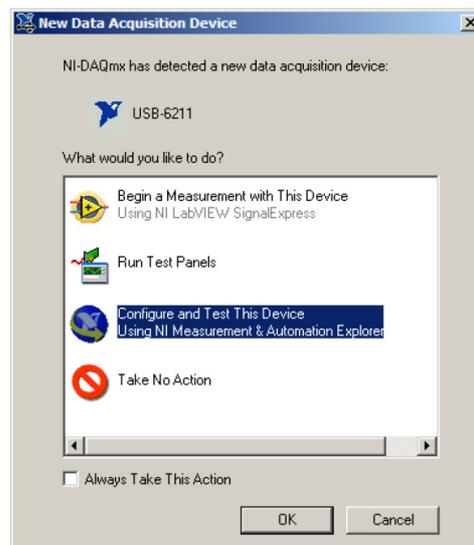

Figure 2.1: Pop-up window on device detection.
2. A message (Figure 2.1) may appear on the screen indicating that the data acquisition device has been detected.